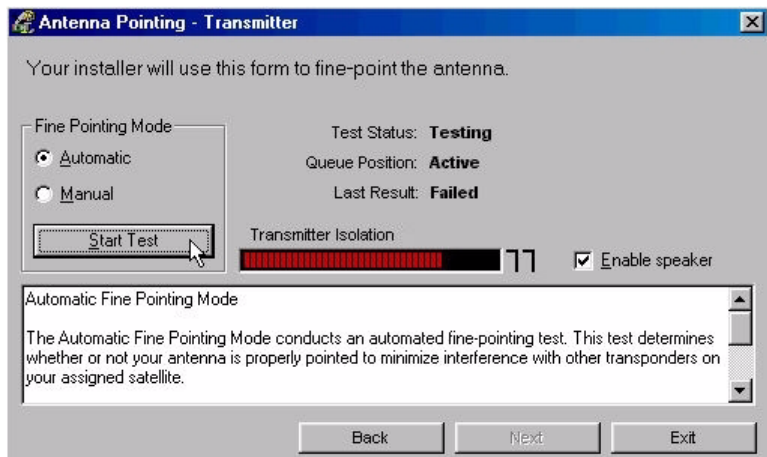

Figure 29: Auto cross-pol
16. Then select the Automatic radio button and select **Start Test** to start the automatic ACP test. See Figure 29.